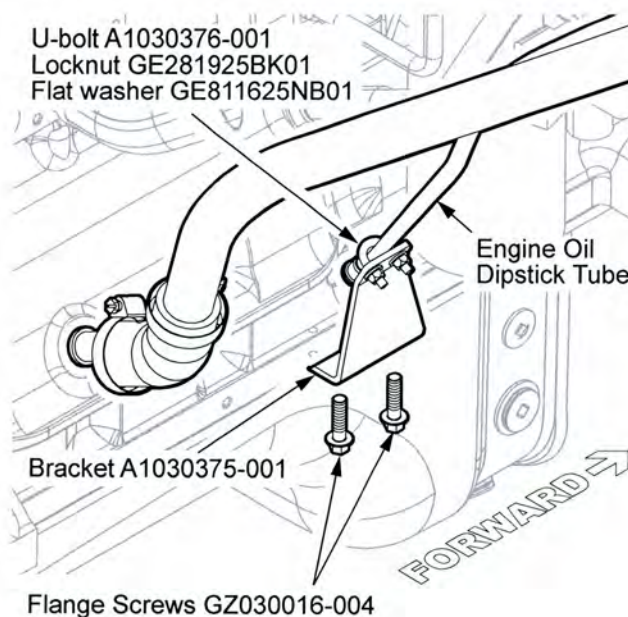

Figure 5
8. Locate the two screws on the oil pan directly below the newly installed engine oil dipstick tube. Remove the two screws and discard. Using the two flange screws (GZ030016-004), install the bracket (A1030375-001) onto the engine block where the two screws were previously removed (see Figure 5). Tighten the new flange screws to 250 in-lbs (28 N·m) of torque.
9. Secure the engine oil dipstick tube to the bracket by installing the U-bolt (A1030376-001), two flat washers (GE811625NB01) and two locknuts (GE281925BK01) (see Figure 5). Tighten the two locknuts to 250 in-lbs (28 N·m) of torque.